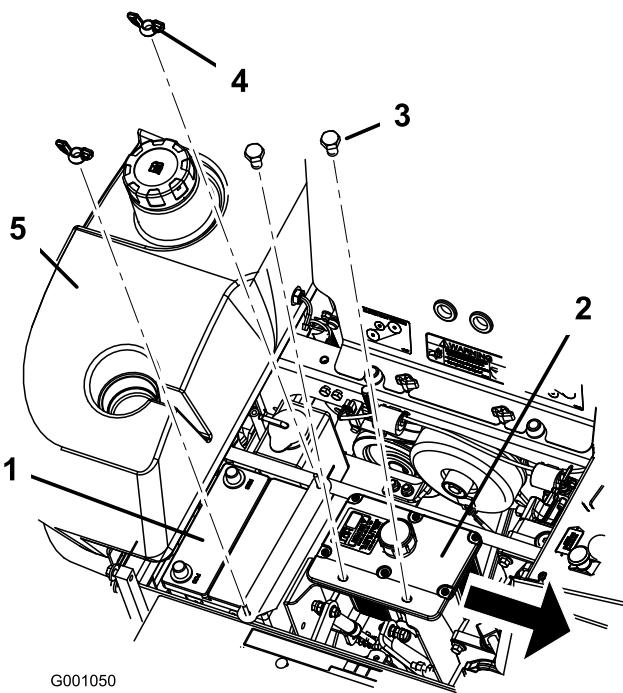

Figure 47
- Remove both wing nuts (1/4 inch) securing the battery clamp (Figure 47).
- Remove the two bolts holding the hydraulic tank in place (Figure 47).
6. Secure battery with J-bolts, hold down clamp and 2 washers (1/4 inch), and 2 wing nuts (1/4 inch) (Figure 47).